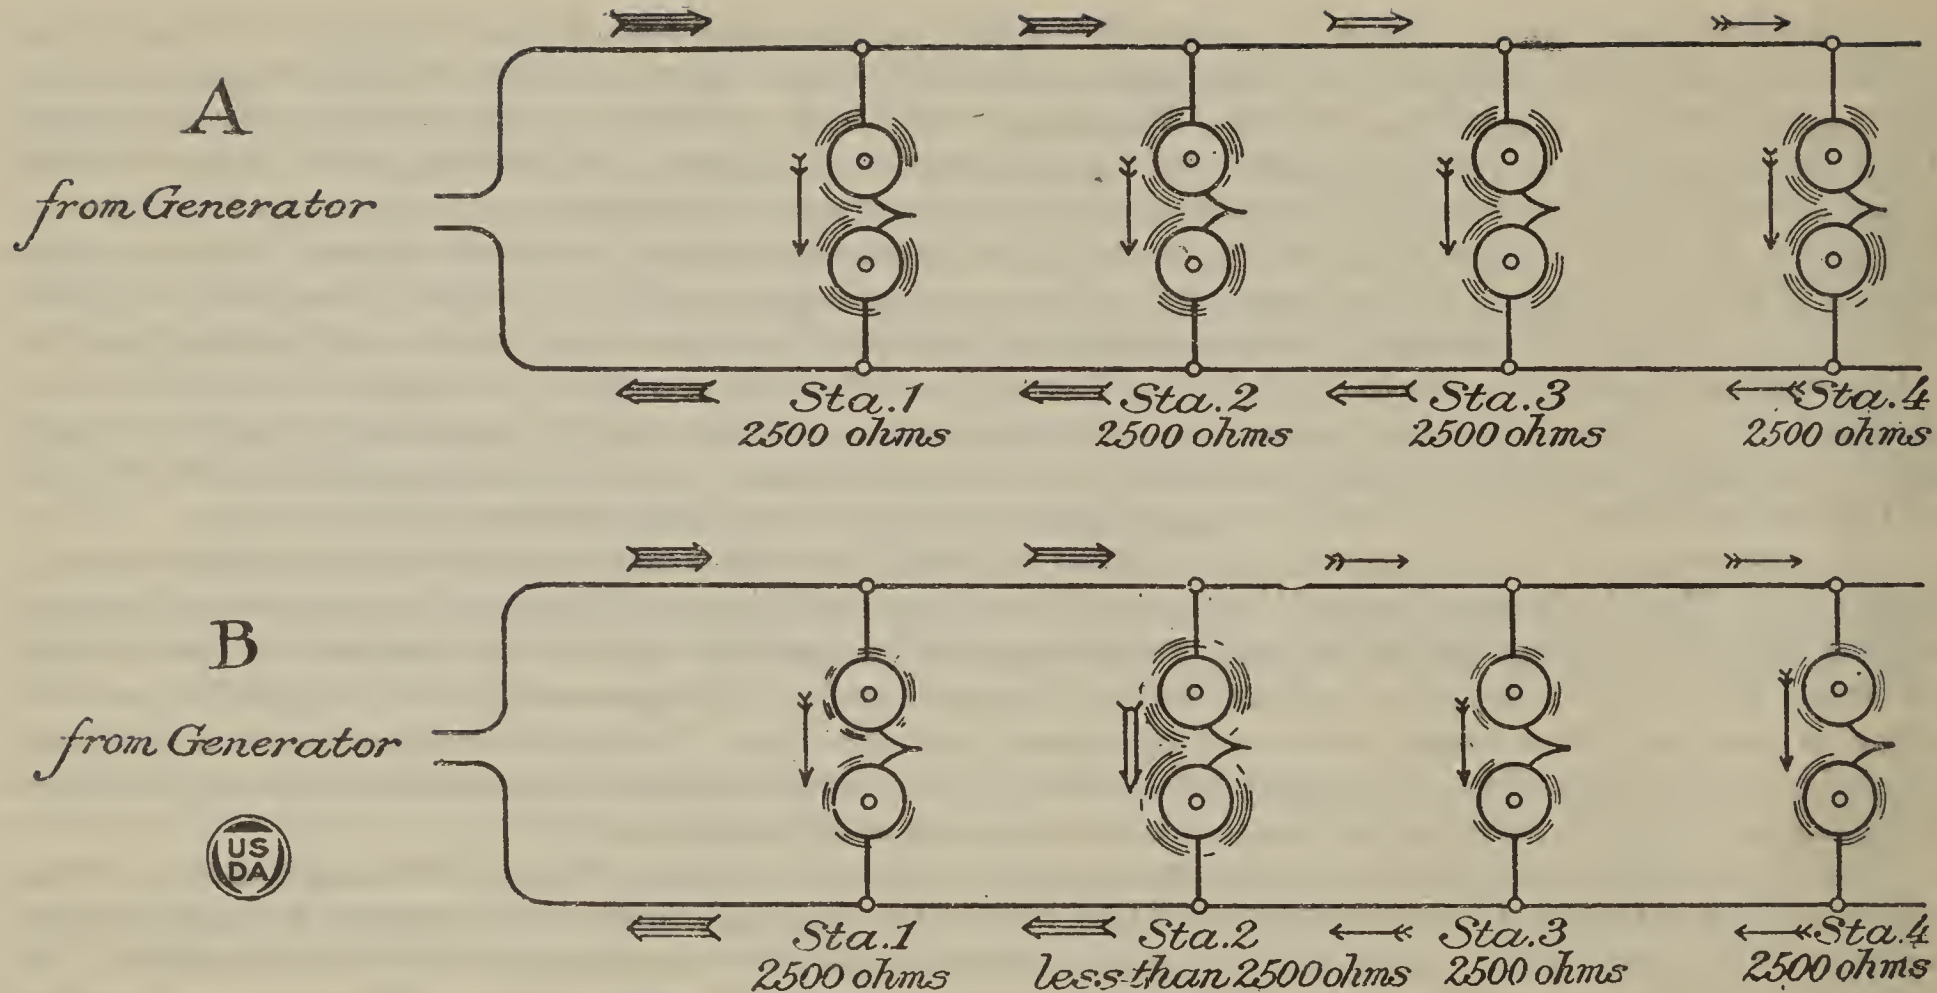

FIG. 5.—Effect when ringers on a line are not all of the same resistance.
It is very important in purchasing telephones to see that all ringers on any one line are of the same resistance. Otherwise the ringer or ringers of lower resistance will take most of the ringing current, and the remaining ringers of higher resistance will operate weakly or not at all. Figure 5, Diagram A, illustrates four telephone sets on the same line. As indicated by the arrows each ringer is receiving its proportionate amount of current because all ringers are of the same
resistance. Figure 5, Diagram B, shows how Station 2, which has less resistance than the other three ringers, receives more than its proportion of the ringing current. This will cause Ringers 1, 3, and 4 to operate either weakly or not at all.
- (f) Ringer of low resistance connected somewhere on telephone line. (See fig. 5.)
(f) Ringer of low resistance connected somewhere to telephone line. (See fig. 5.)